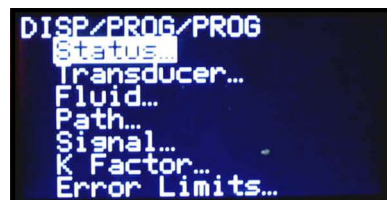

Figure 36: The PROG Menu
3. Use the **[▲]** and **[▼]** keys to scroll to the desired channel and press **[ENT]**. The screen appears similar to *Figure 36* below.